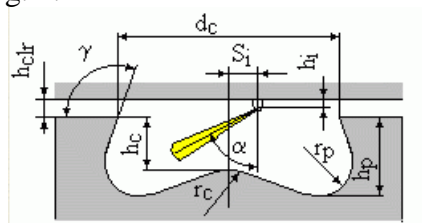

Fig. 2. Specification of piston bowl by main dimensions.
1. Using main dimensions, fig. 2.